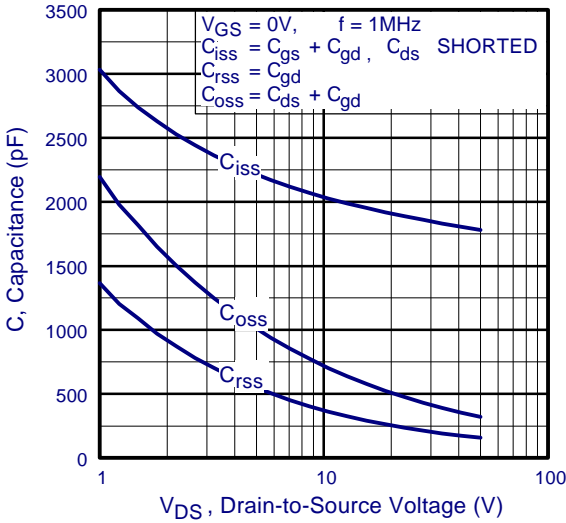

Fig 5. Typical Capacitance Vs. Drain-to-Source Voltage
| C_{riss} | Reverse Transfer Capacitance | — | 230 | — | | $f = 1.0\text{MHz}$, See Fig. 5 ⑤ |